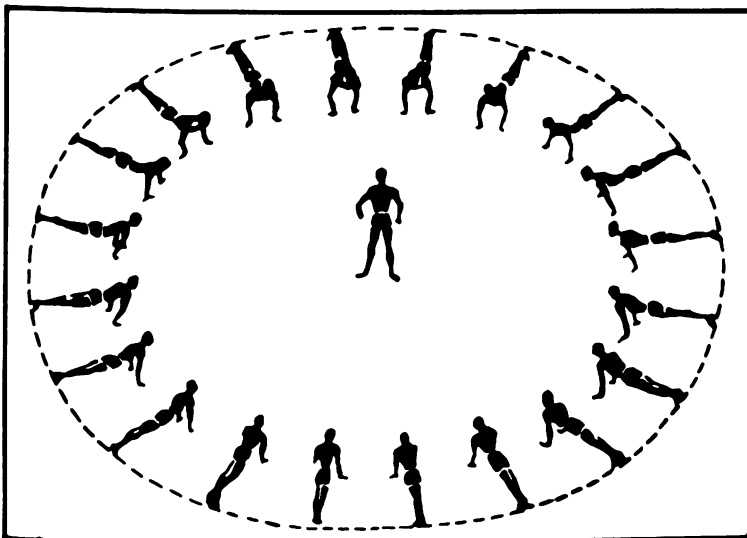

Figure 2. The circle formation.
4. **Circle Formation.** The circle formation is effective for the conduct of various exercise activities (fig 2). This formation has an advantage in that the supervision of all men is facilitated, and a moving formation is available which provides control. Guerrilla exercises, grass drills, and some forms of running are examples of activities which are more easily conducted in the circle formation than in the extended rectangular formation.